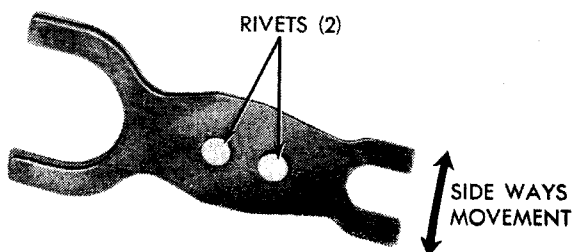

Fig. 25—Shifter Fork Assembly
The shifter fork consists of two spring steel plates assembled with two rivets. There should be approximately 1/16 inch side movement as shown in Figure 25 to insure proper pinion gear engagement. Lubricate between the plates sparingly with SAE 10 engine oil.
(5) Complete installation of pinion shaft, engaging shifting fork with clutch actuators. Figures 25 and 26 show correct relation of parts at assembly. **The friction washer must be positioned on shoulder of splines of the pinion shaft before driven gear is positioned.**